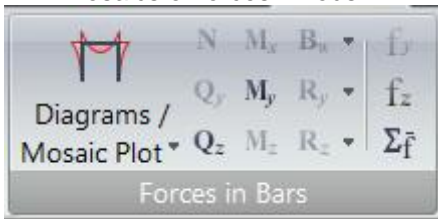

Fig. 12 – Forces in Bars
- Forces in rods (Fig. 12) – operations for displaying diagrams and mosaics of forces in rods.